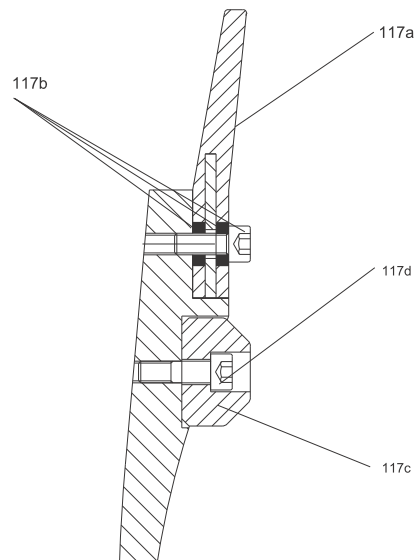

Fig. 77 Turbulence optimiser and discharge casing protector.
1. Fit the turbulence optimiser (pos. 117a).
2. Mount the screws (pos. 117b) and tighten them according to section 7. *Tightening torques and lubricants*. See fig. 77.
1. Fit the discharge casing protector (pos. 117c) and mount the screws (pos. 117d) and tighten them according to section 7. *Tightening torques and lubricants*. See fig. 77.